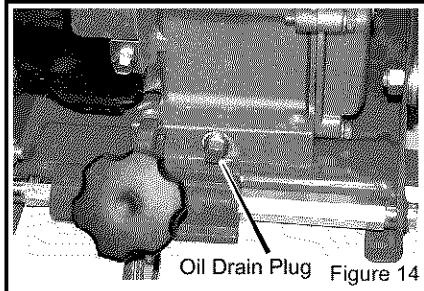

Figure 14
2. Remove the **oil drain plug** (see Figure 14). Drain the oil into a flat pan.